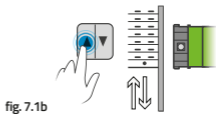

fig. 7.1b
- b) Press and hold the UP button (purple wire) – the tubular motor will confirm the direction's change with the short UP/DOWN moves and diode in the tubular motor's head will go off. - fig. 7.1b.